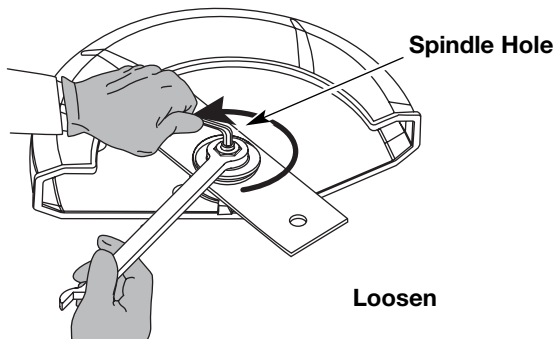

Fig. 15
- Place the 5/16" Allen wrench in the spindle hole (Fig. 15).
- While holding the Allen wrench in place, loosen the nut with a 15/16" wrench by turning it counterclockwise (Fig. 15).